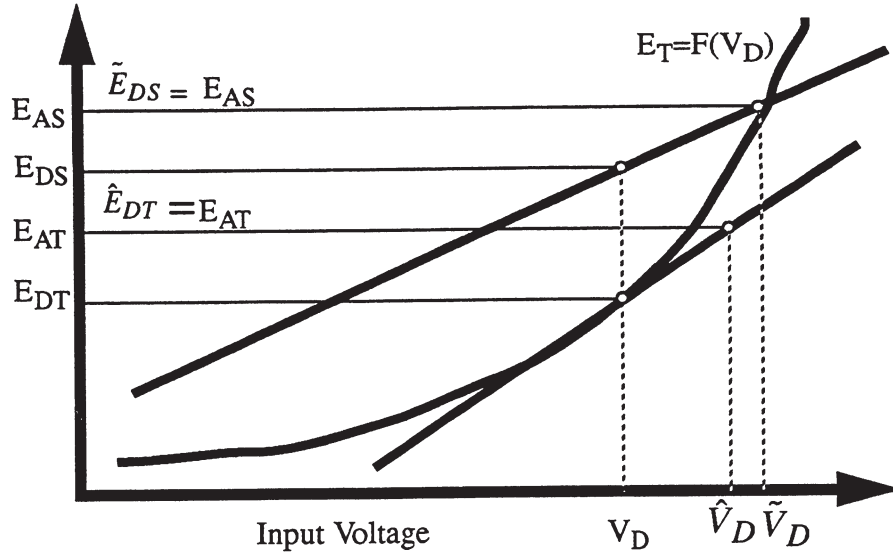

Figure 7. Linearization of the Test Device
Now that the test device is linearized, it is time to determine the aV/dV difference. Applying equation (1) to figure 7, the aV/dV difference of the test and standard devices is seen to be the following
Referring again to figure 7, it can be seen that $\tilde{V}_D$ and $\hat{V}_D$ are as follows.